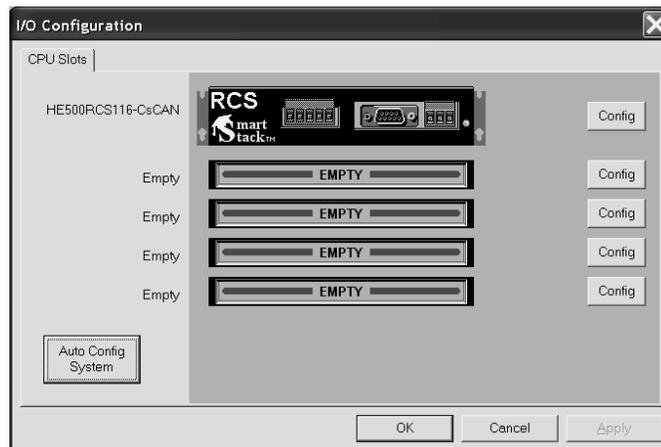

Figure 7.3 – RCS116 is Selected
3. Figure 7.3 appears. Right-click or double-click on a slot or press the **Config** button located next to each slot to **add** a SmartStack module. A list eventually appears containing all SmartStack modules that are available for use. Follow the prompts and make your selection. Note that a maximum of four SmartStack modules can be placed on each RCS116